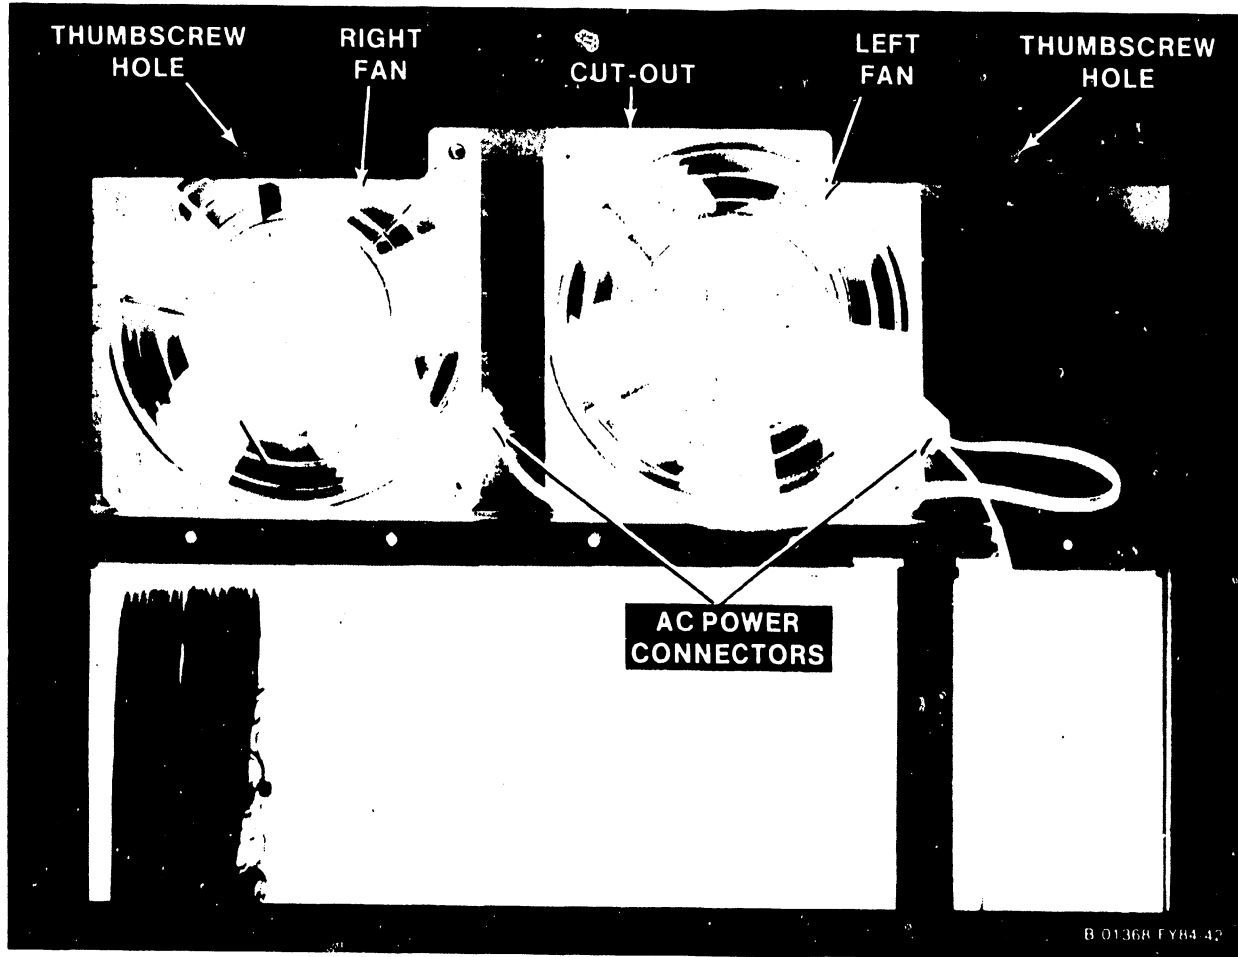

Figure 5-41. Inside View of Fan Panel Assembly
6. Disconnect the ac power connector(s) at the fan(s). (Figure 5-41.)